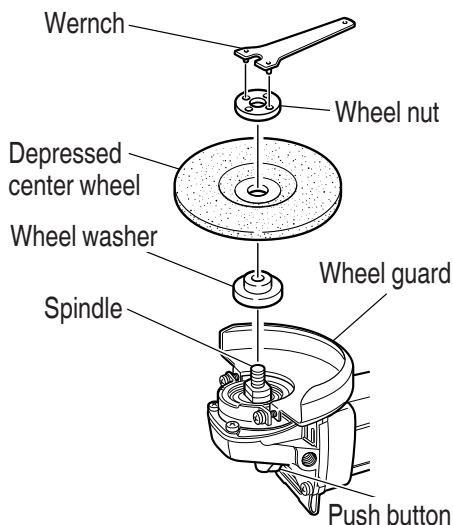

Fig. 2
Confirm that the push button is disengaged by pushing push button two or three times before switching the power tool on (See **Fig. 2**).
ASSEMBLING AND DISASSEMBLING THE DEPRESSED CENTER WHEEL (Fig. 2)
1. Assembling (**Fig. 2**)
Tighten the wheel nut by using the supplied wrench as shown in **Fig. 2**.